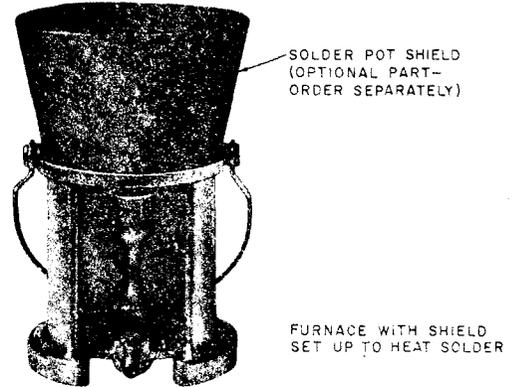

Fig. 3 — Solder Pot Shield in Place on Furnace
2.03 A shield is available that may be placed on the furnace as shown in Fig. 3 when the furnace is used to heat solder.